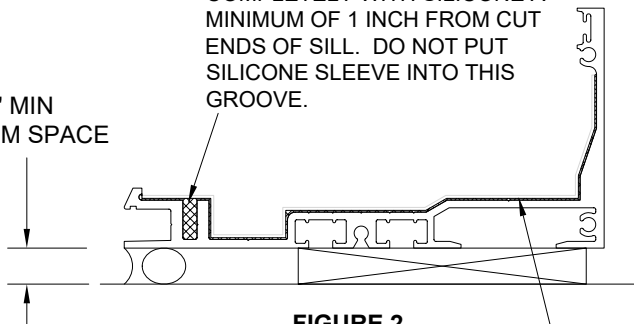

FIGURE 2
4. Fill front screw chase completely with silicone beyond splice a minimum of 1 inch from cut end of sill. (Figure 2)